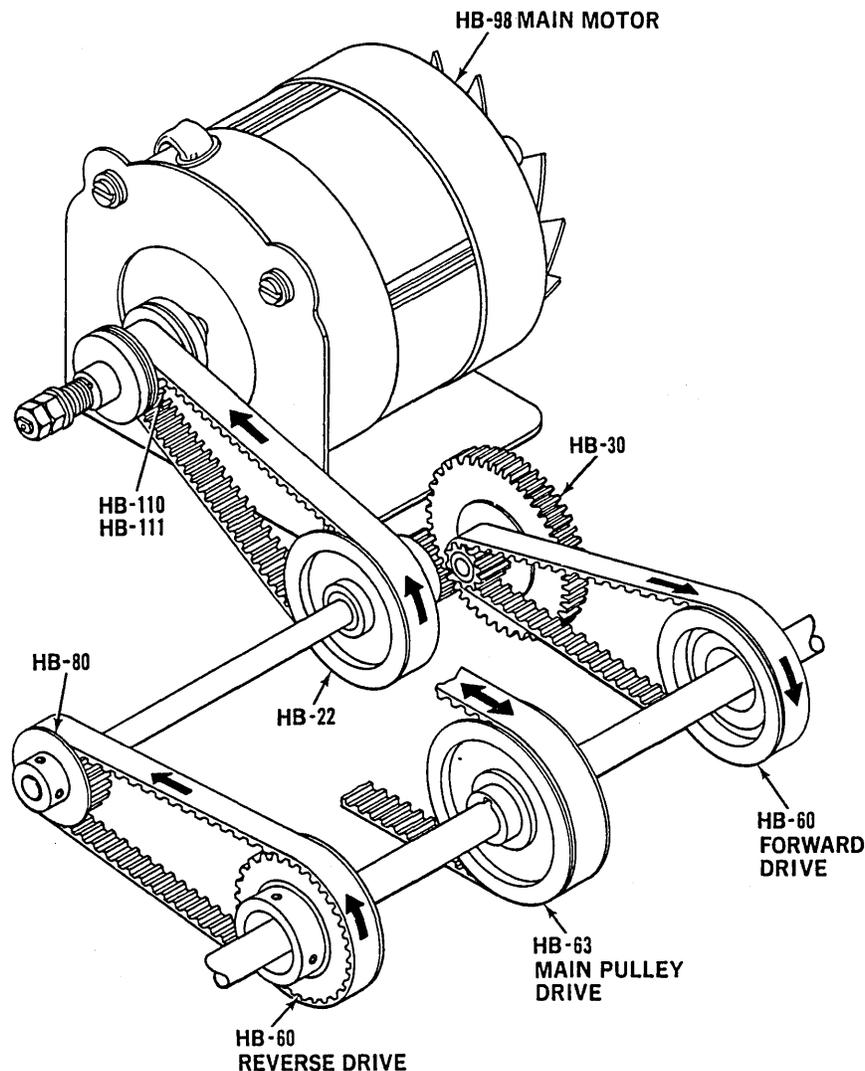

Figure 5-1. SERIES 101 DRIVE TRAIN
A. Motor Drive Chain (Figure 5-1)